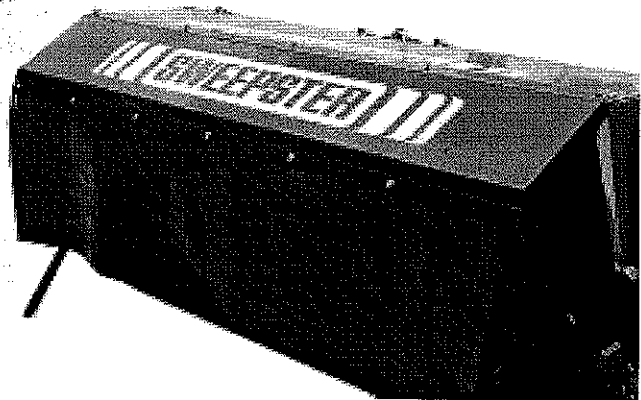

figure 46
4. Attach the flap and retainer plate to the deflector plate by installing a 5/16 x 1 in. carriage bolt, flat washer, lock washer and nut in all but the outer slots (figure 46).